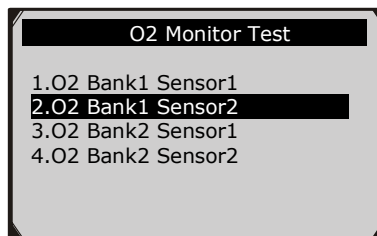

Figure 6.24
- 3) Use the **UP/DOWN** scroll button to select O2 sensor from **O2 Monitor Test** menu and press **OK** button. (Figure 6.24)